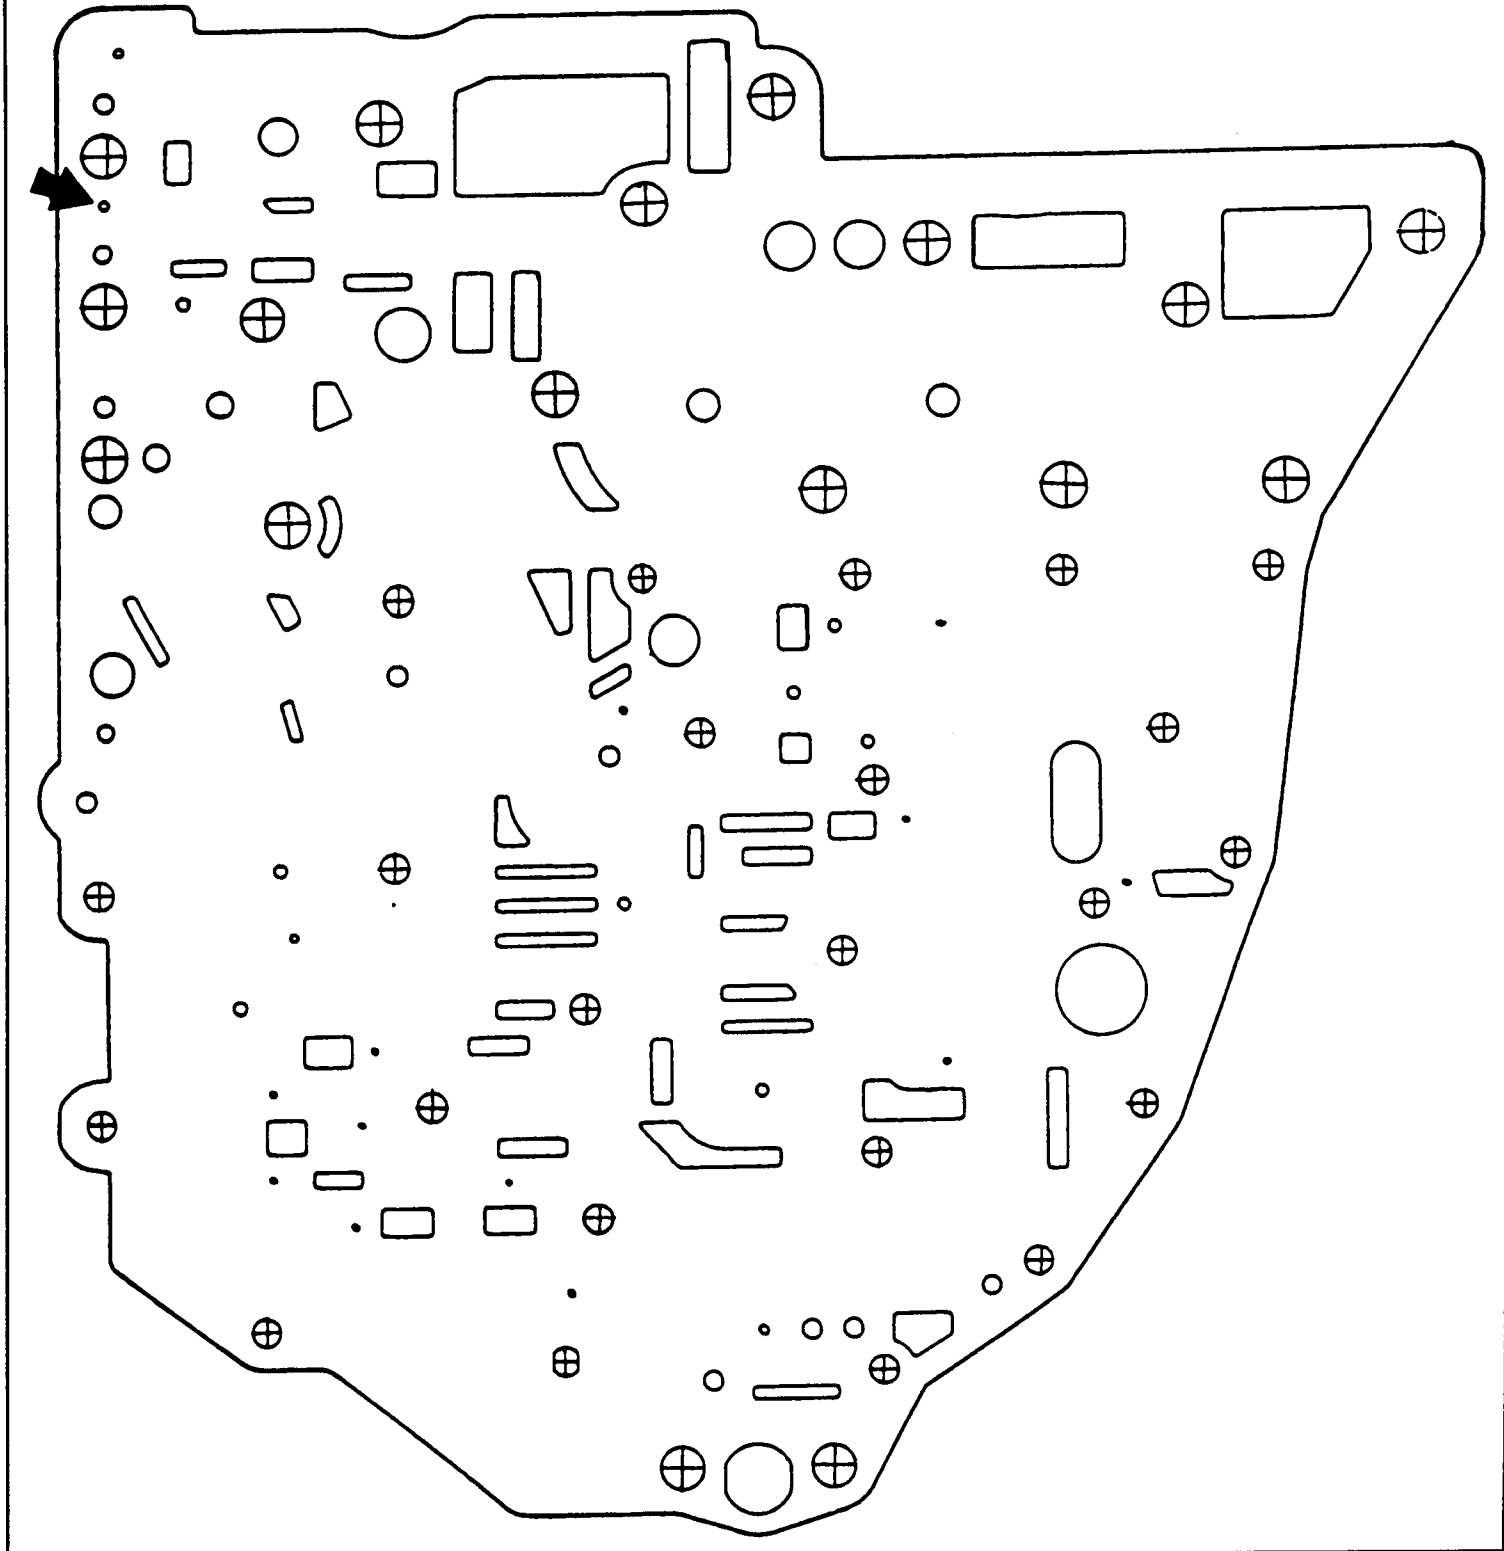

Figure 5
- (5) **SPACER PLATE** - The new Spacer Plate has a larger (.105") overdrive clutch feed orifice to provide increased oil flow to the overdrive clutch circuit (See Figure 5).